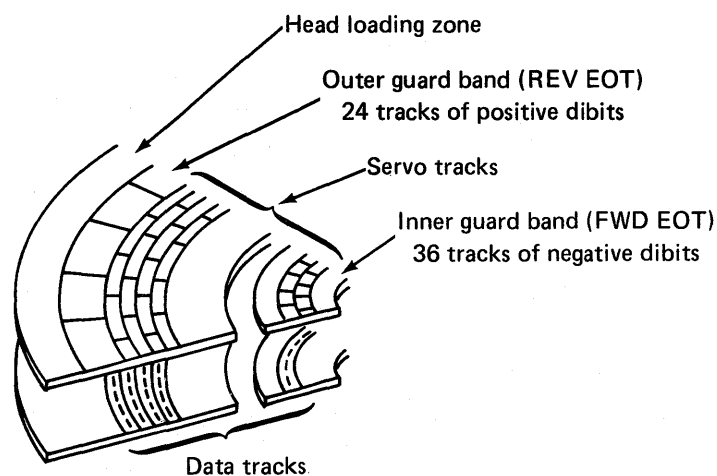

Figure 52. Servo surface and data surface
20. After the 823₍₁₀₎ alternating positive and negative dibit servo tracks, there is a field of 36₍₁₀₎ negative (even) dibit tracks. Refer to figure 52. This field is known as the inner guard band and is used to detect forward end of travel when the heads move too far during a forward seek.